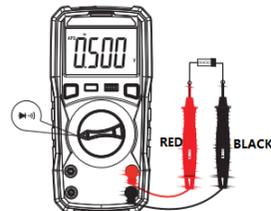

Figure 6
(6). DIODE AND CONTINUITY TEST (Figure 6)